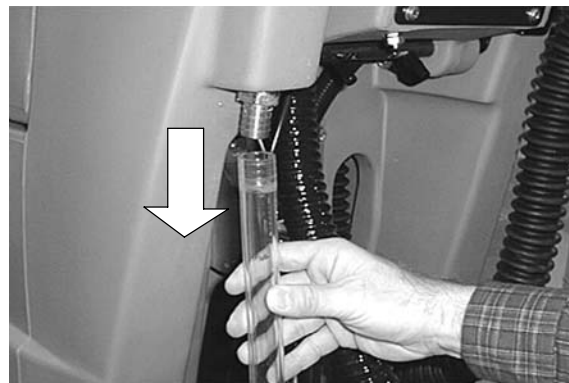

FIG. 25
1. Pull clear hose off hose barb at rear of machine and drain solution into floor drain or bucket (Figure 25).